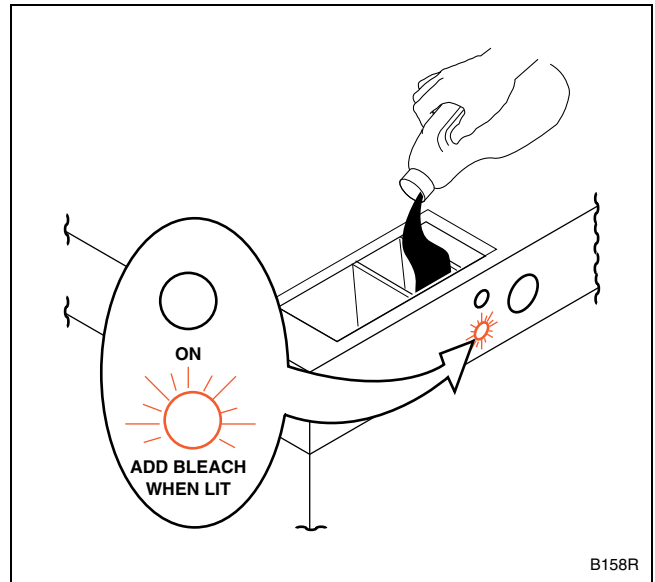

Figure 10
10. Add bleach to container 2 when ADD BLEACH WHEN LIT is illuminated. Refer to *Figure 10*.